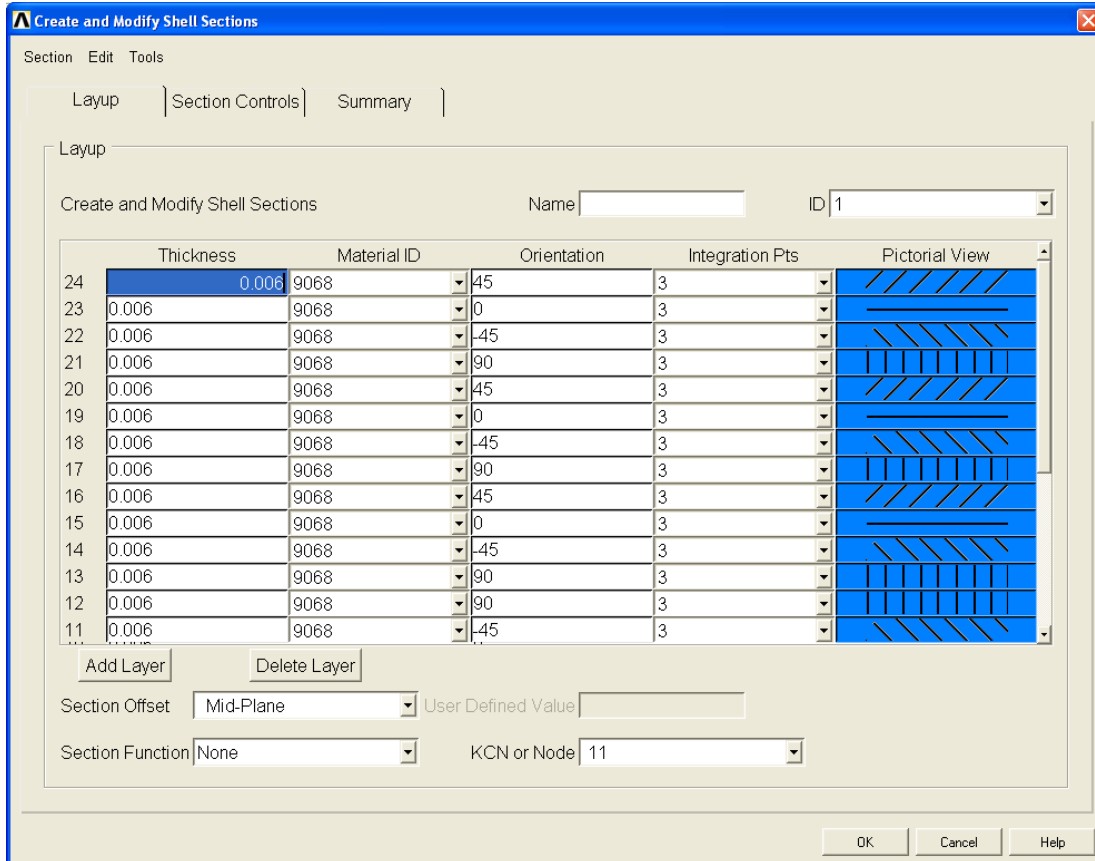

Figure 11. Shell section dialog box.
- Click **Tools** → **Add Symmetry** to get the full number of plies. The section editor should appear as shown in Figure 11. Note that the Material ID values may differ depending on the materials in your Material Library. Click **OK**.